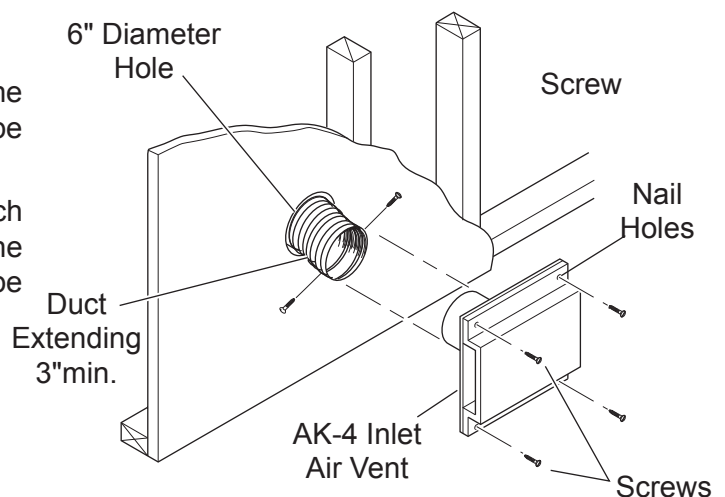

Figure 28 - Combustion Air Assembly for Model No. AK-4
4. Attach outside duct to starting collar with duct clamp or screws. **See Figure 28.**
5. Cut a 6-inch diameter opening for model AK-4 in the outside wall covering where the outside vent is to be located. **See Figure 28.**